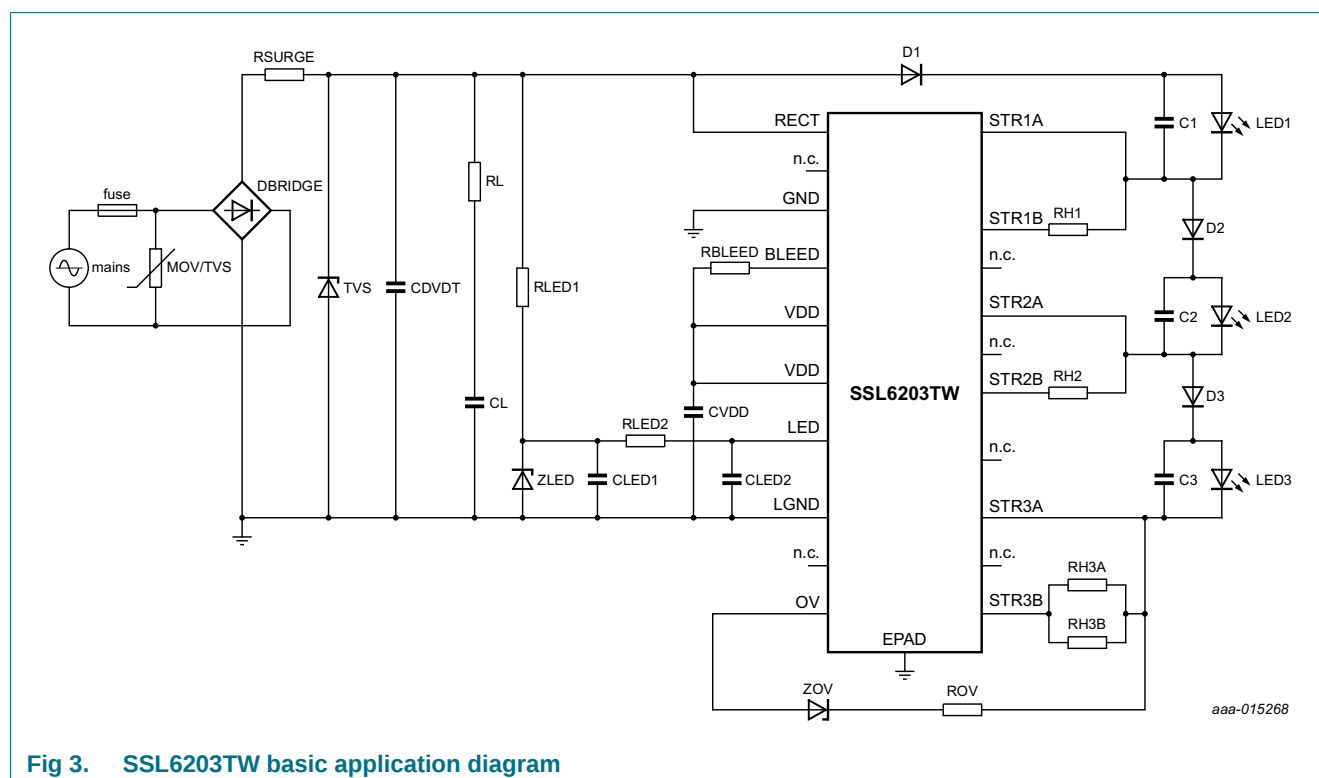

Fig 3. SSL6203TW basic application diagram
The linear LED driver in the SSL6203TW operates as a high-voltage linear current source. This current source is used to drive the LEDs. Figure 3 shows a basic application diagram. Depending on the momentary value of the rectified mains voltage, the LED current flows through one or more LED strings.
A linear LED driver is sensitive to line and load variations as they affect the on-time of the LEDs (which influences the emitted light) and the dissipation in the IC. To get a more stable line/load regulation and a more constant IC dissipation, negative feedback is available through the OV pin. The feedback reduces the LED current as the mains current voltage increases, stabilizing the IC dissipation. Zener diode ZOV and resistor ROV (see Figure 3) can set the starting point and the sensitivity of the feedback.
- When 10 % mains voltage variation is assumed the minimum peak voltage of the mains in a 120 V (AC) system equals: $0.9 \times 120 \times \sqrt{2} = 152.7 \text{ V}$
- The bridge rectifier and the surge resistor have some voltage drop (see Figure 3)